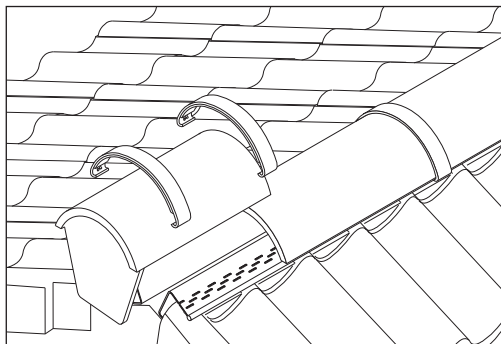

Fig 8 Completion at ridge
- 17 Install Segmental or Modern block end ridge by either bedding in mortar, or mechanically fixing using Marley Eternit Dry Ridge System or Universal RidgeFast. Mono-ridge block end tiles are available for mono-pitch roofs (Figs 8 and 9).